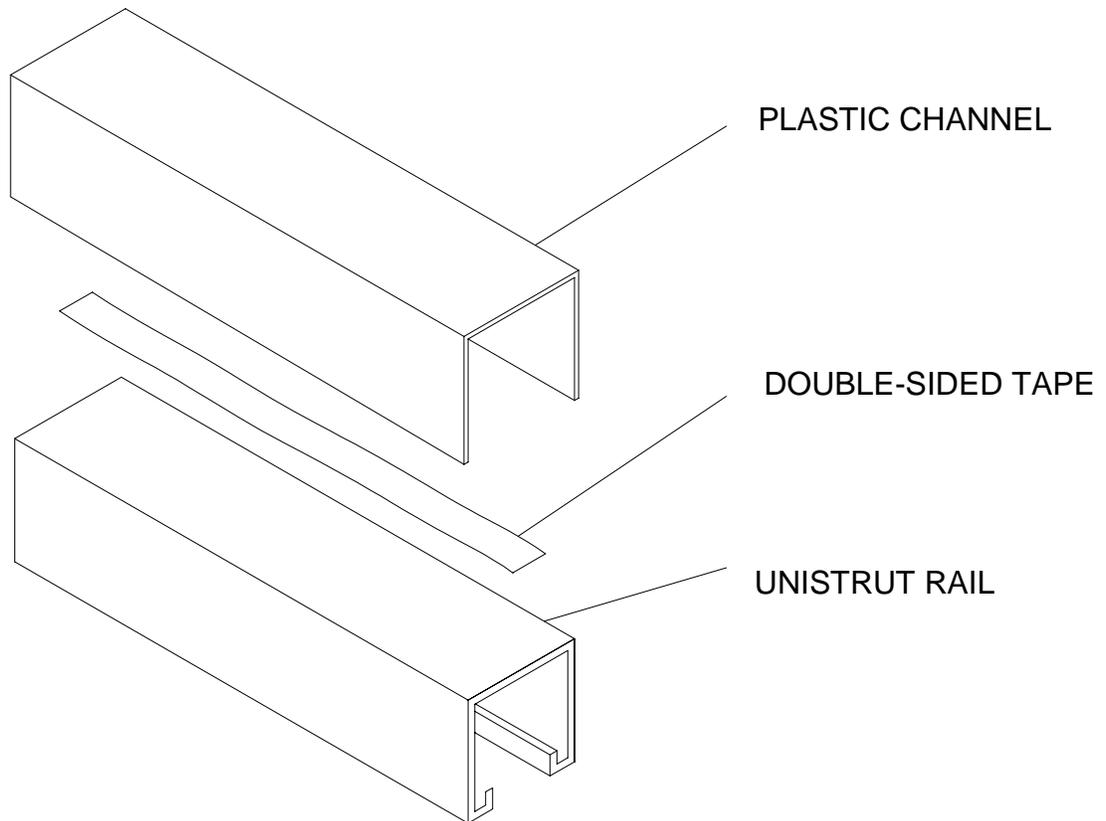

Figure 7.4
- Apply double-sided tape to the surface of each rail, refer to Figure 7.4.